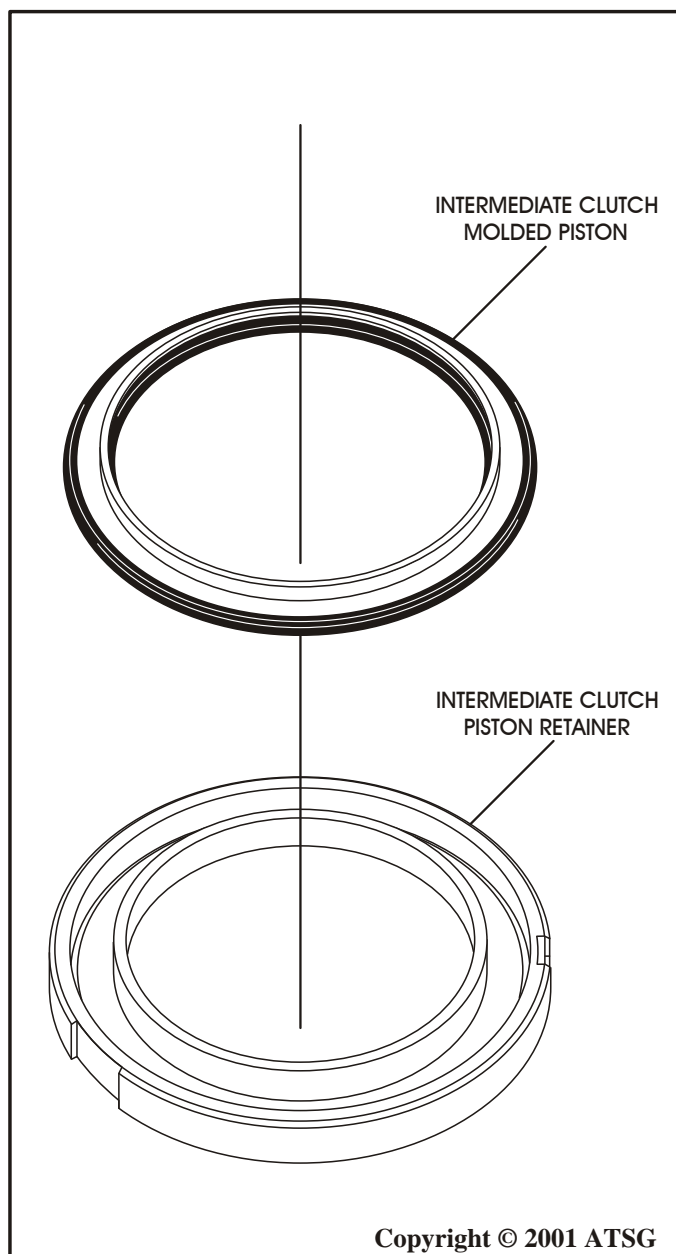

Figure 115
12. Install the intermediate clutch piston into the intermediate clutch piston retainer, as shown in Figure 115, with a twisting motion.